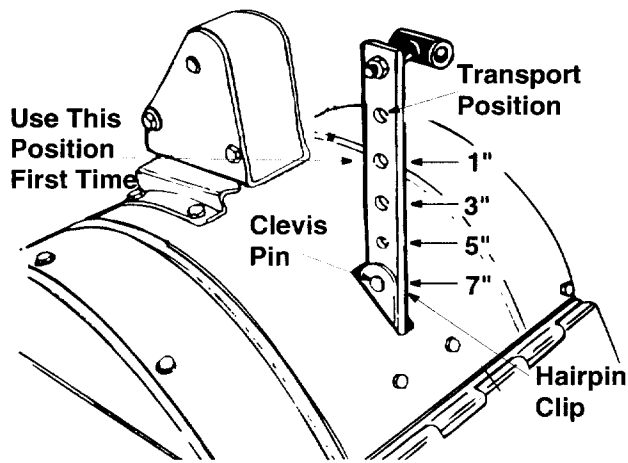
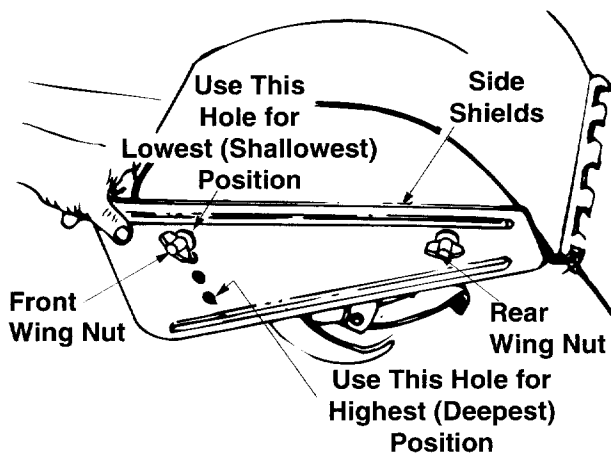

Figure 9
Figure 10
WARNING: When operating the tiller for the first time, use the depth stake setting that gives 1 inch of tilling depth (second hole from the top). See Figure 9.
Tilling depth is controlled by the depth stake which can be adjusted to five different settings. See Figure 9. Adjust the side shields as shown in Figure 10, as you adjust the depth stake. Be certain spark plug wire is disconnected and grounded against the engine.
1. When using the tiller for the first time, use the second adjustment hole from the top (1" of tilling depth). See Figure 9.
5. To adjust the depth stake, remove the clevis pin and hairpin clip. See Figure 9. Move the depth stake to the desired setting.
6. To adjust the side shields, remove the front wing nut and loosen the rear wing nut. See Figure 10. Place side shield in position desired. Replace wing nuts and tighten securely.